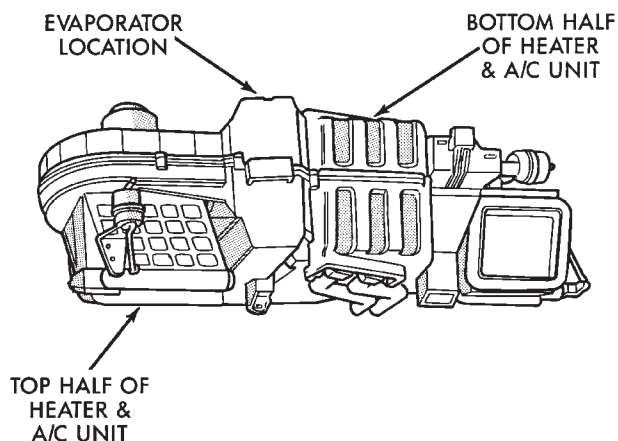

Fig. 16 Evaporator Location in Heater-A/C Unit (Upside Down)
- (4) Carefully turn the heater-A/C unit over. Remove the top half of the unit (Fig. 16).
- (5) Remove the evaporator out of the unit.